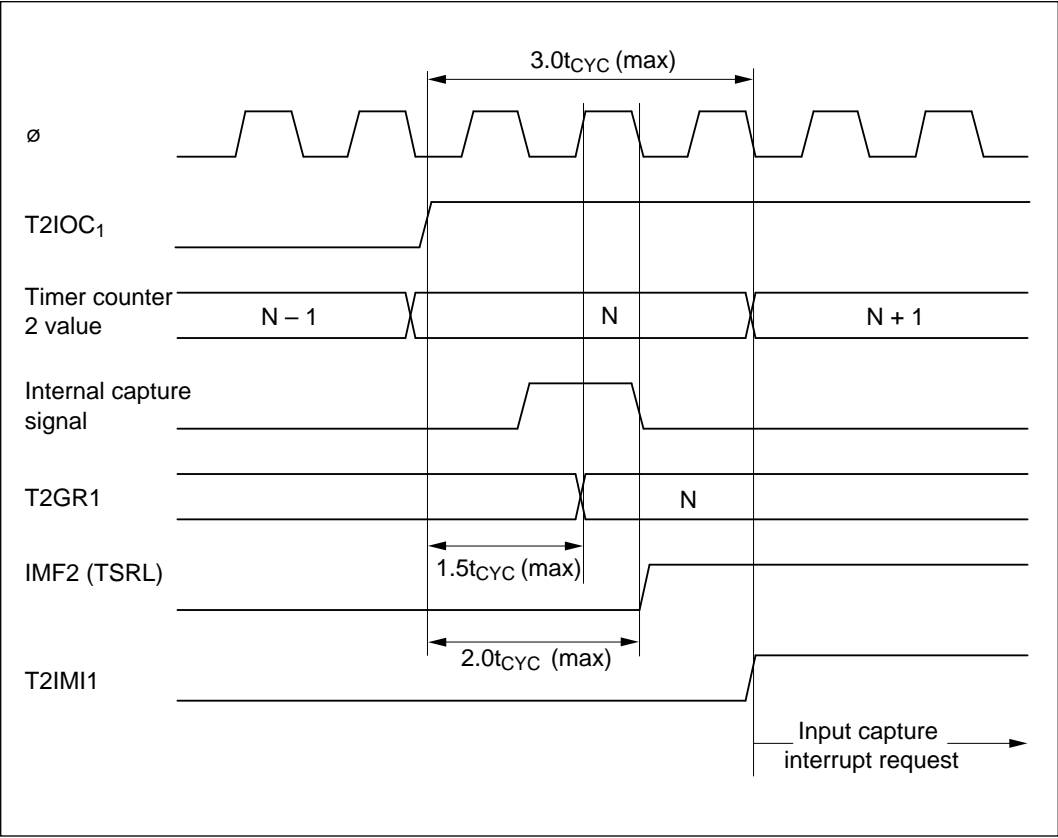

Figure 11-47 Timing from Capture Input to Input Capture Interrupt Request
(2) Input Capture Timing: Figure 11-47 shows the timing from capture signal input to generation of an input capture interrupt request. A maximum $1.5t_{CYC}$ after input of the capture signal, the IPU transfers the timer counter value (N) to T2GR1. The input capture/compare match flag (IMF) is set $0.5t_{CYC}$ after the input capture transfer. The interrupt request (T2IMI1) is generated $1.0t_{CYC}$ after IMF is set. The T2IMI1 interrupt request therefore comes a maximum $3.0t_{CYC}$ after input of the capture signal.